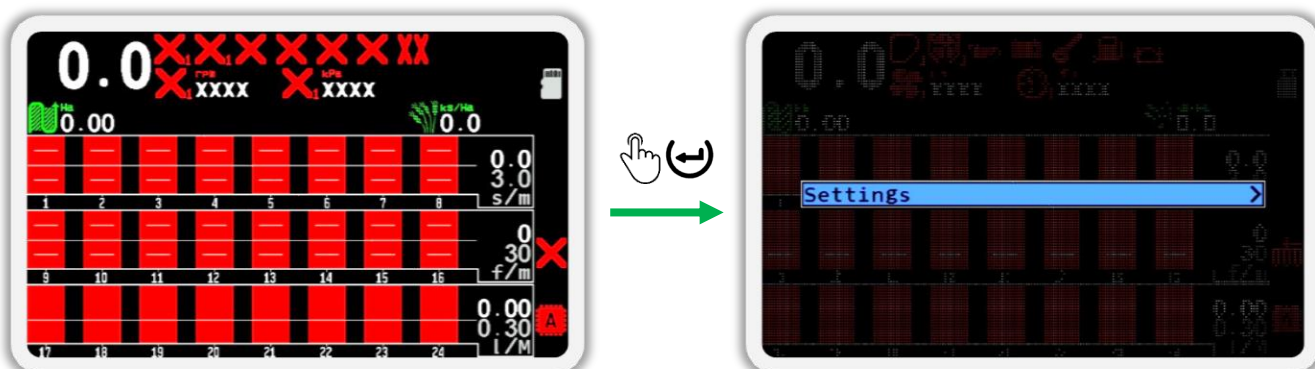

Figure 104
- On the main screen, press the  “Menu” button. As a result, a menu with one item  “Settings” will be displayed on the screen (see Figure 104).